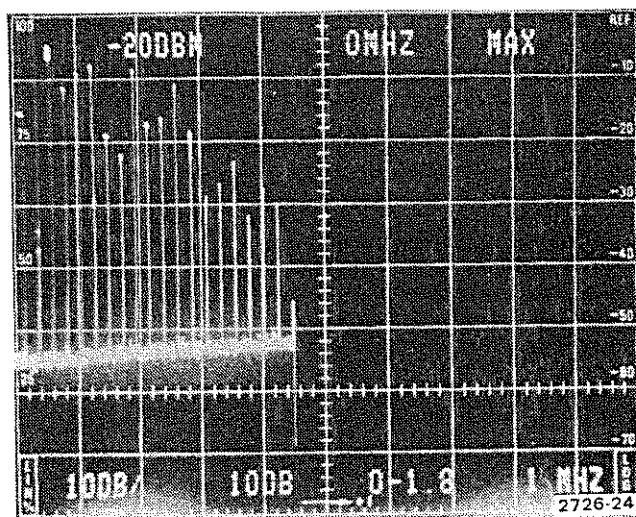

Fig. 3-4. Typical display of calibrator markers in MAX SPAN position.
e. Note the comb of 100 MHz markers at the left side of the display (see Fig. 3-4). Tune the dot marker to a position above the first 100 MHz marker.